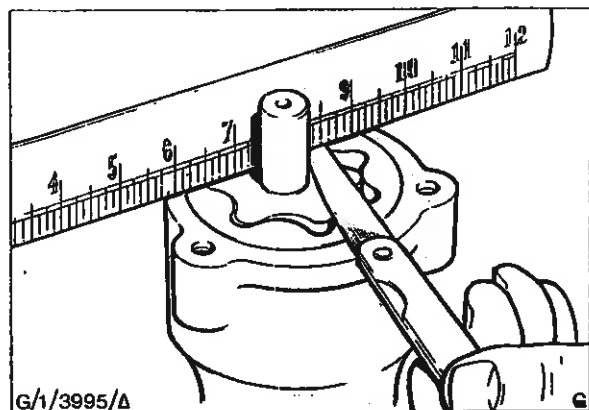
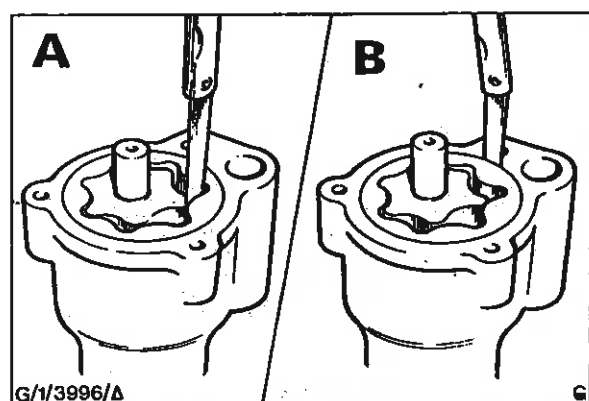

Fig. 5 - Measuring Pump Rotor End Float
Fig. 6 - Measuring Rotor Lobe/Body Clearance
7. Place a straight edge across the pump face and measure the clearance to the face of the inner rotor (rotor end float) - see Fig. 5. Refit the outer rotor and measure the clearance between the outer rotor and the pump body, and between the rotor lobes - see Fig. 6. If the clearances are not within the specified limits the rotors should be renewed.